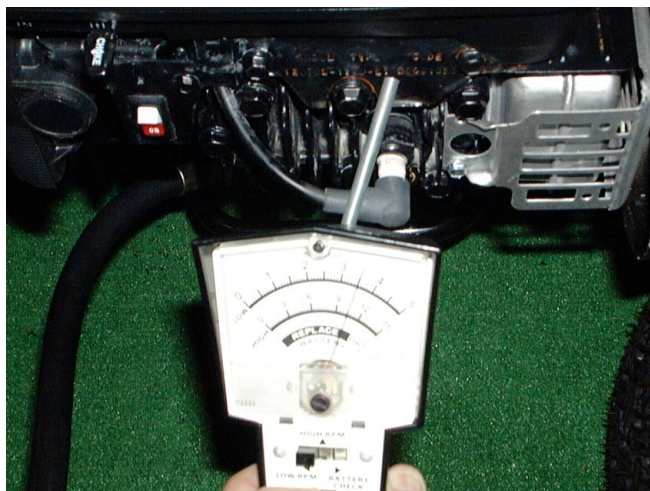

Figure 3
- Check the engine RPM with a tachometer and make certain the engine is running between 3500 and 3600 RPM. \_\_\_\_ See Figure 3.